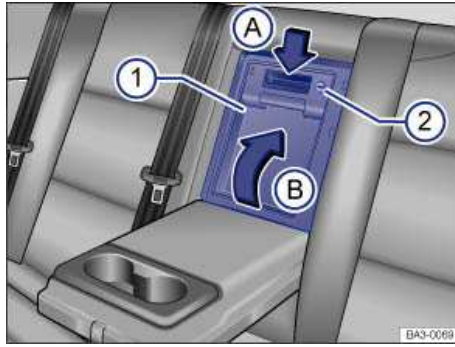

Fig. 115 In the rear seat backrest: Opening luggage compartment pass-through with lock.
- If the pass-through is equipped with a lock, use the Valet Parking key ⇒ page 39, *Vehicle key set* to unlock the luggage compartment pass-through ⇒ fig. 115 \(2\).
- Working from the vehicle passenger compartment, guide the pass-through cover (1) into the luggage compartment and engage it in its bracket.
- If the pass-through is equipped with a lock, use the Valet Parking key, *Vehicle key set* to lock the luggage compartment pass-through ⇒ fig. 115 \(2\).